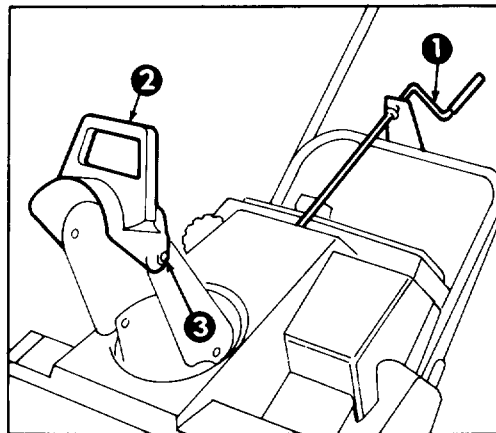

Figure 8
OPERATING TIPS (Fig. 8)
1. ADJUSTING DISCHARGE CHUTE—Rotate chute crank clockwise to move discharge chute to the right and counterclockwise to move chute to the left. Deflector handle on top of discharge chute is used to control the height of the snow stream. Do not over tighten deflector mounting nuts (Fig. 8) so excessive force is required to operate deflector.